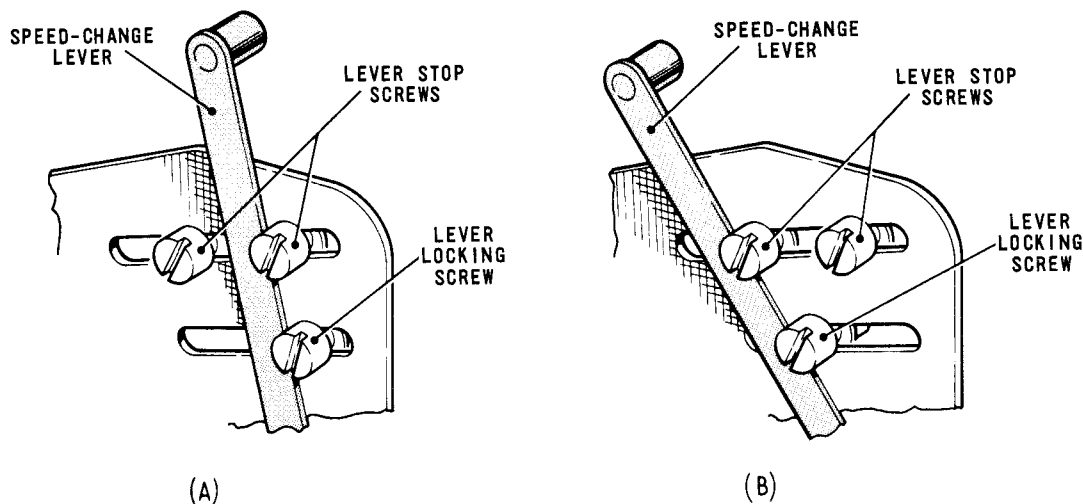

Fig. 4.68 SPEED-CHANGE LEVER POSITIONS
82.21 To adjust, move the speed-change lever, Fig.4.68, towards the front of the machine so that it is freed from its stop screws, and adjust the lever until the condition is satisfied. Secure the lever in its new position with its stop screws.
- ★ The anchor of the lag weight spring is on the tail of the speed-change lever, Fig.4.68. On dual-speed machines the lag weight transit timing, and thus the length of the Stop signal, should be set to suit the required speed of operation by positioning the speed-change lever against one of its two stop screws. The positions of the stop screws are set in the factory and will not normally require attention. If, however, a new lag weight spring is fitted at any time it may be necessary to reposition the stop screws by carrying out the following procedure.
- (a) For 45/50 baud operation, as shown in Fig.4.68(a).
- (b) For 75 baud operation, as shown in Fig.4.68(b).
- 84.6 If the correct number of revolutions is not obtained, move the speed-change lever, Fig.4.68, towards the front of the machine so that it is freed from its